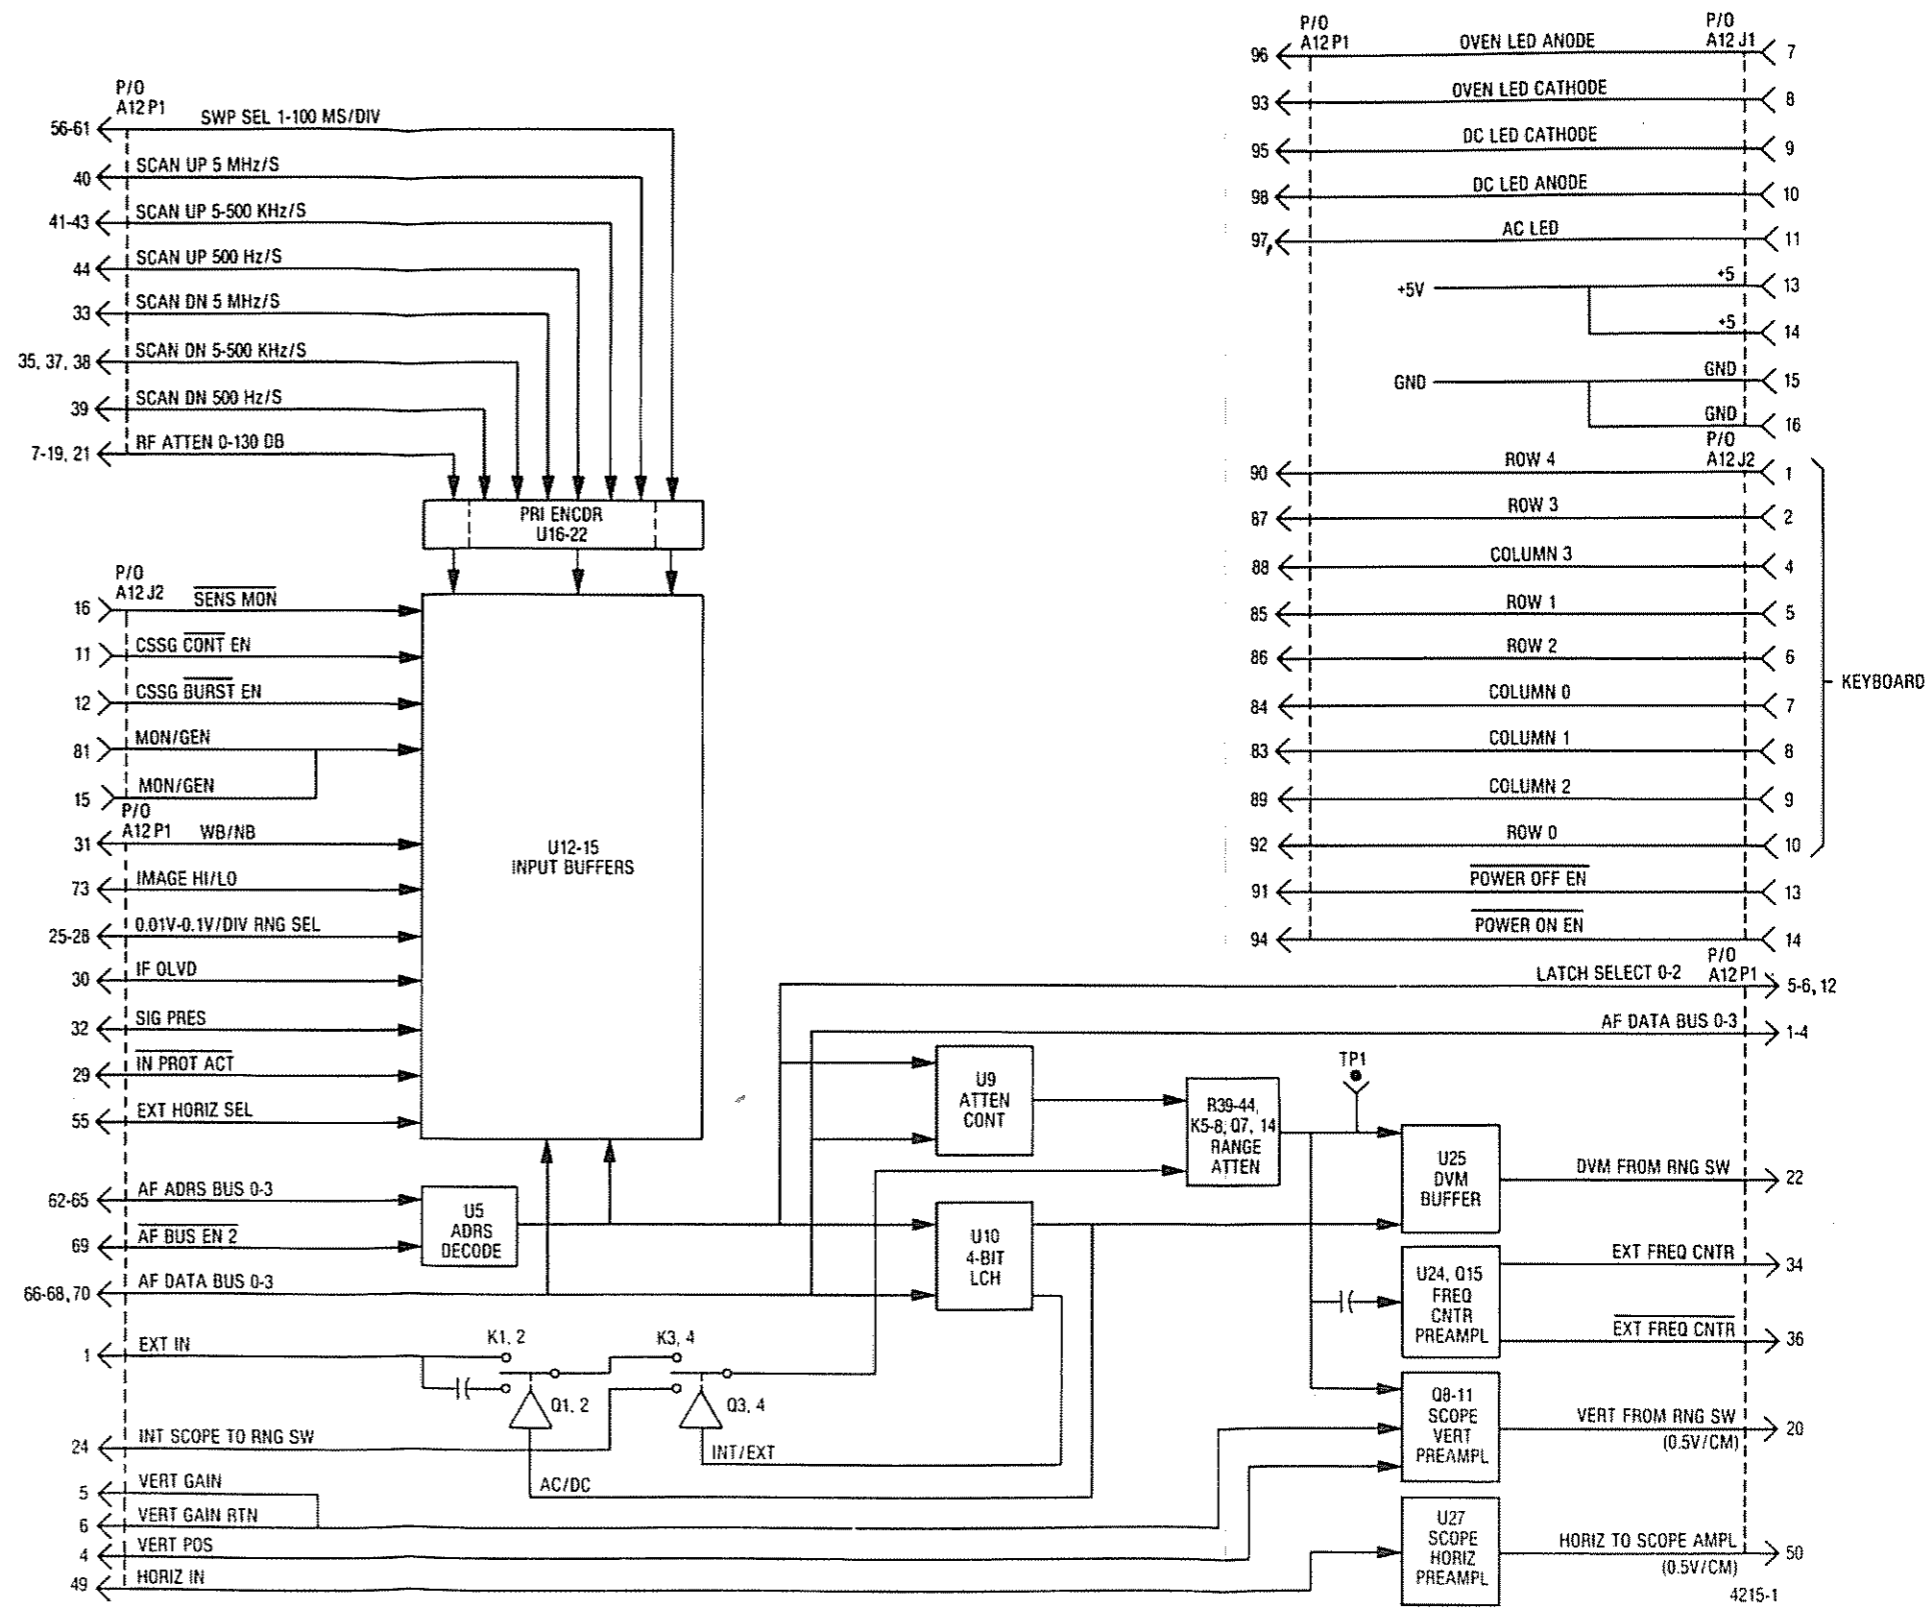

Figure 18-1. Front Panel Interface Module A12 Block Diagram
**18-1. GENERAL.** The front panel interface module contains the input buffers for front panel control to the processor. In addition, buffering and ranging circuits for external scope vertical/horizontal, SINAD, DVM, and frequency counter inputs are in this module. A block diagram and schematic diagram of the Front Panel Interface Module is shown in figures 18-1 and 18-2, respectively.